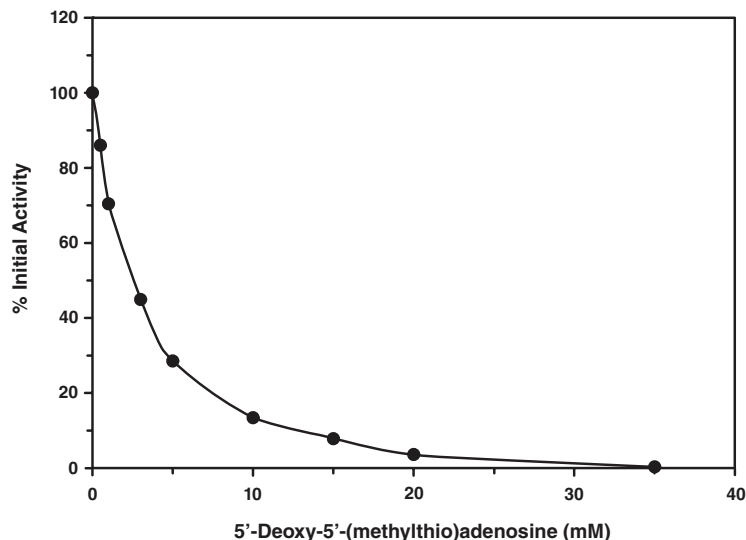

Figure 3. Inhibition of human recombinant SET7/9 MT by 5'-deoxy-5'-(methylthio)adenosine (IC₅₀ ~2.5 mM)
- Graph the percent inhibition or percent initial activity as a function of the inhibitor concentration to determine the IC₅₀ value (concentration at which there was 50% inhibition). The inhibition of human recombinant SET7/9 MT by the broad spectrum methyltransferase inhibitor, 5'-deoxy-5'-(methylthio)adenosine, is shown in Figure 3 (see page 14) as an example.⁷